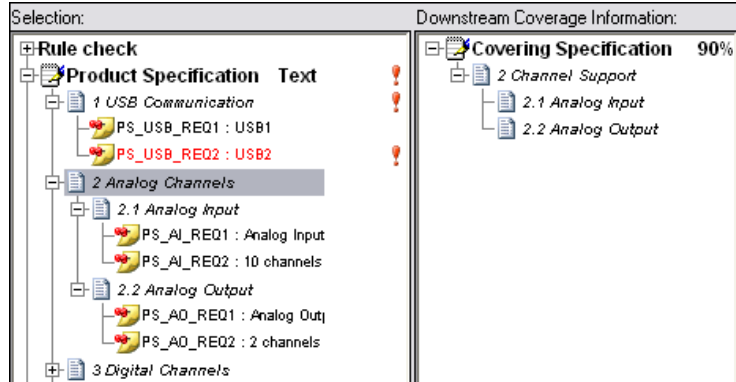

Figure 3-4. 2 Analog Channels Section Selected in Coverage Analysis View
8. Select the **2 Analog Channels** section, as shown in Figure 3-4.